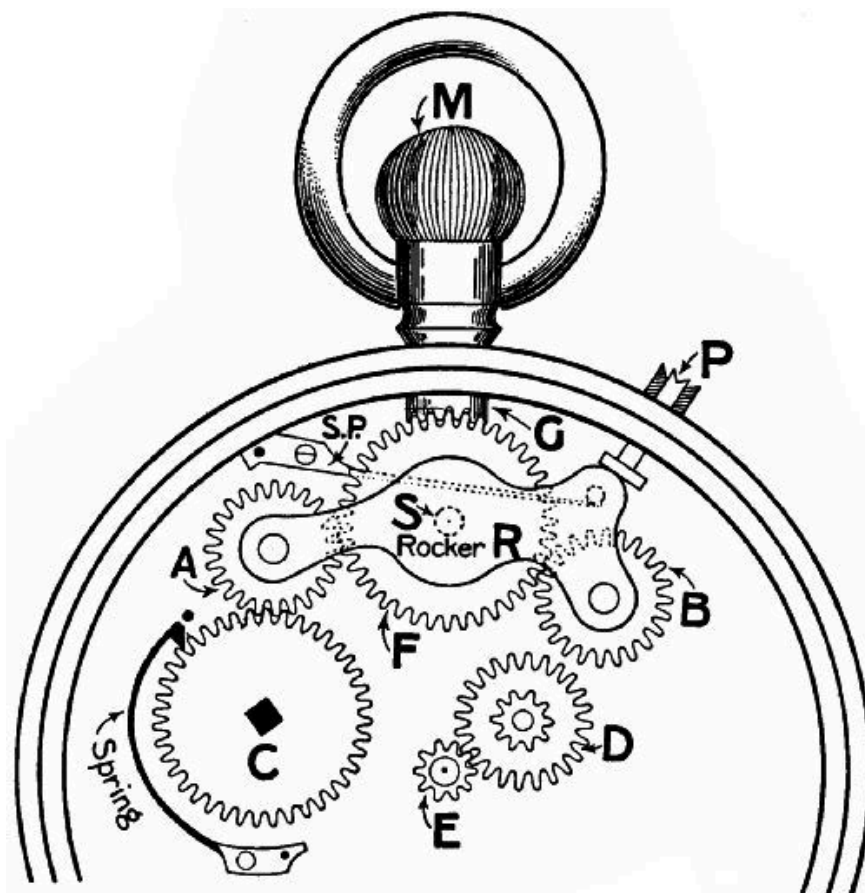

FIG. 209.—The winding mechanism of a keyless watch.
There are two forms of "going-barrel" keyless mechanism—(1) The rocking bar; (2) the shifting sleeve. The *rocking bar* device is shown in Figs. 209, 210. The milled head M turns a cog, G, which is always in gear with a cog, F. This cog gears with two others, A and B, mounted at each end of the rocker R, which moves on pivot S. A spring, S P, attached to the watch plate presses against a small stud on the rocking bar, and keeps A normally in gear with C, mounted on the arbor of the mainspring.
To wind the watch, M is turned so as to give F an anti-clockwise motion. The teeth of F now press A downwards and keep it in gear with C while the winding is done. A spring click (marked solid black) prevents the spring uncoiling (Fig. 209). If F is turned in a clockwise direction it lifts A and prevents it biting the teeth of C, and no strain is thrown on C.
The *shifting sleeve* mechanism has a bevel pinion in the place of G (Fig. 209) gearing with the mainspring cog. The shaft of the knob M is round where it passes through the bevel and can turn freely inside it, but is square below. On the square part is mounted a little sliding clutch with teeth on the top corresponding with the other teeth on the under side of the bevel-wheel, and teeth similar to those of G (Fig. 209) at the end. The clutch has a groove cut in the circumference, and in this lies the end of a spring lever which can be depressed by the push-piece. The mechanism much resembles on a small scale the motor car changing gear (Fig. 49). Normally, the clutch is pushed up the square part of the knob shaft by the spring so as to engage with the bevel and the winding-wheels. On depressing the clutch by means of the push-piece it gears with the minute-hand pinion, and lets go of the bevel.